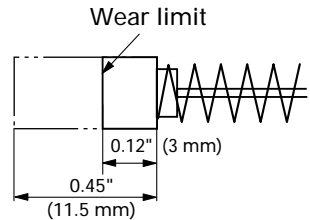

Fig. 28
4. Inspecting the carbon brushes (Fig. 28)